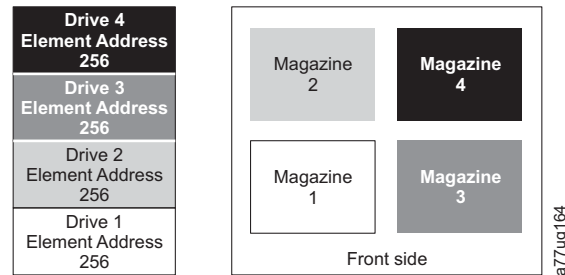

Figure A-4. Configuration of a four - partition system
- Logical Library 1: Slot1 through 23 4096 (0x1000) through 4118 (0x1016) as shown in Figure A-4 on page A-6
When configured with four logical partitions, the Element Address assignments will be as follows: DTE assignments will be as shown in Figure A-4 on page A-6.